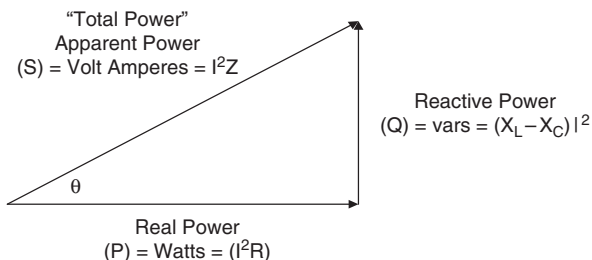

Figure 1. Power Factor Triangle (Lagging)
Power factor (pf) is defined as the ratio of the real power (P) to apparent power (S), or the cosine (for pure sine wave for both current and voltage) that represents the phase angle between the current and voltage waveforms (see Figure 1). The power factor can vary between 0 and 1, and can be either inductive (lagging, pointing up) or capacitive (leading, pointing down). In order to reduce an inductive lag, capacitors are added until pf equals 1. When the current and voltage waveforms are in phase, the power factor is 1 ($\cos(0^\circ) = 1$). The whole purpose of making the power factor equal to one is to make the circuit look purely resistive (apparent power equal to real power).
Real power (watts) produces real work; this is the energy transfer component (example electricity-to-motor rpm). Reactive power is the power required to produce the magnetic fields (lost power) to enable the real work to be done, where apparent power is considered the total power that the power company supplies, as shown in Figure 1. This total power is the power supplied through the power mains to produce the required amount of real power.